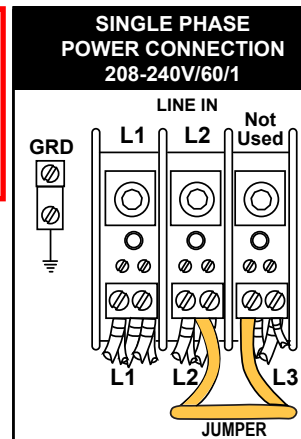

Fig. 20 - Jumper wire
- Step 3:** Connect line power, (L1, L2 and GRD), to the power terminal block, (Fig.20).
- Step 5:** Ensure (L1, L2 and GRD), are connected to the machine power terminal block, (Fig. 20).